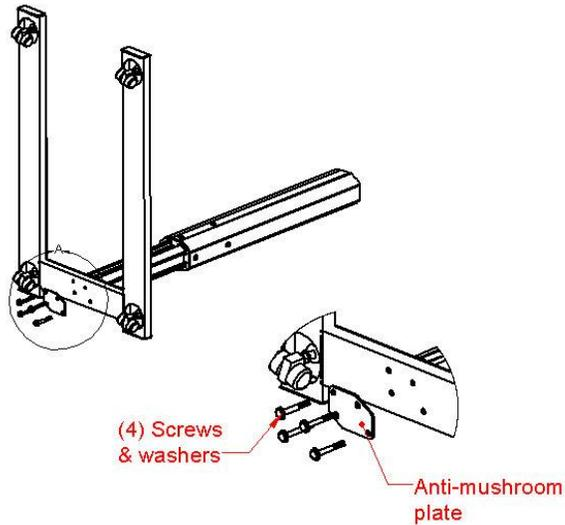

Figure 6
4.4 Remove the base. Place unit on a soft surface such as a blanket or carpet. Remove four bolts, washers & Anti-mushroom plate (Figure 6).
- 4.8 Attach the Base to the column using the screws, washers & anti-mushroom plate removed in step 4.4 (Figure 6).